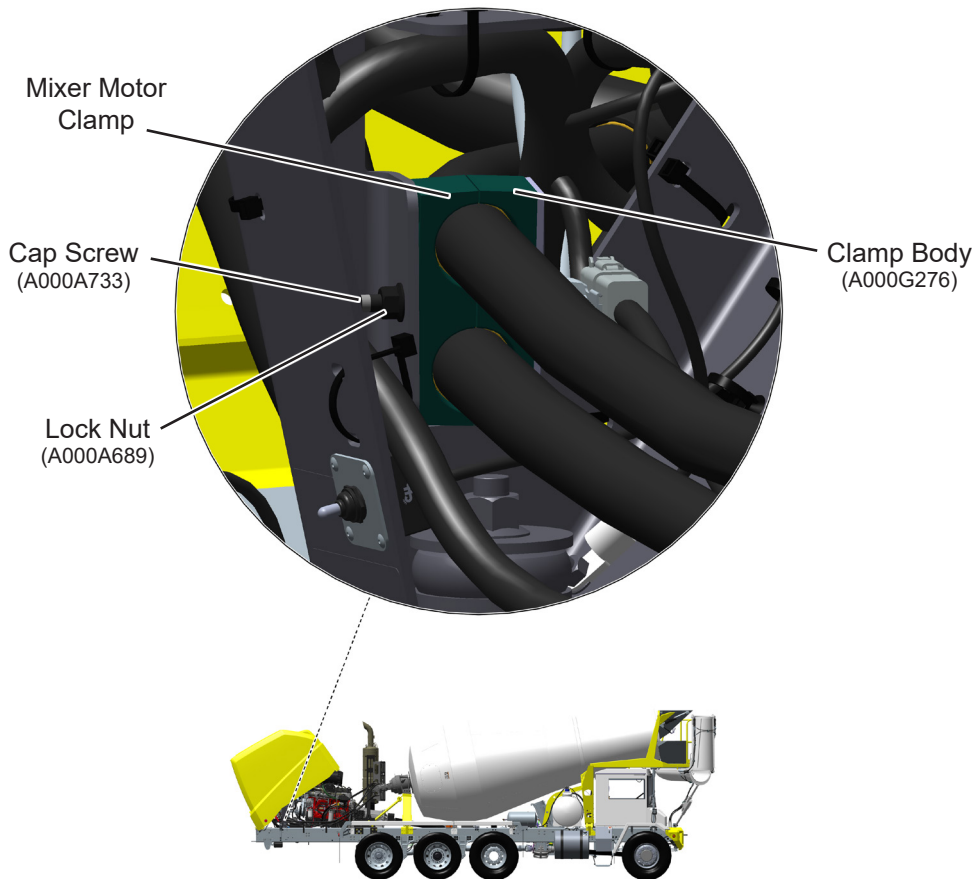

Figure 3 - Power Chute STAUFF Clamps
18. Locate mixer motor hydraulic lines on right side of cooling package base. See Figure 3.
24. Install new hex cap screw (A000A733) in clamp assembly and install new locknut (A000A689) on screw to secure clamp to bracket. See Figure 3. Final tighten mounting screw and nut to 18 ft. lbs.